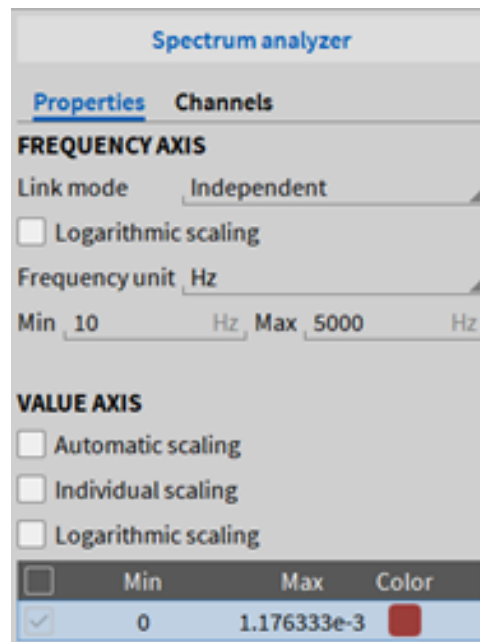

Fig. 8.40: Instrument Properties of the Spectrum Analyzer if Frequency Domain channels are assigned
- If frequency domain channels are assigned to the Spectrum Analyzer, the Instrument Properties are reduced to the Frequency axis and Value Axis settings (see Fig. 8.40). For details, refer to Additional instrument properties.